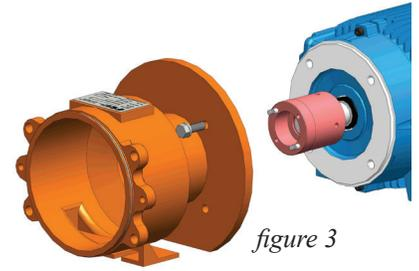

figure 3
9. Slide the motor adapter over the shaft adapter and secure the motor face using hex head bolts (Items 16 & 16A) and lock washers. *See figure 3.* Torque the hex head bolts to the following values: